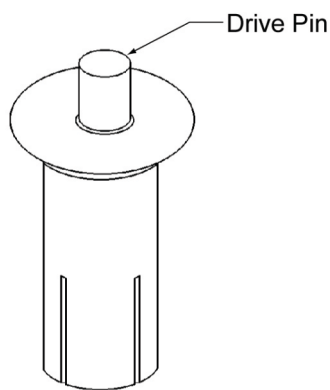

Figure 14
4.6.3 Attach the new lining to the backing plate with new screws and locknuts or drive pin rivets (See Figure 14), as applicable. Work from the center of the friction lining out to the ends. The rivets are installed by driving the pin flush with the head.